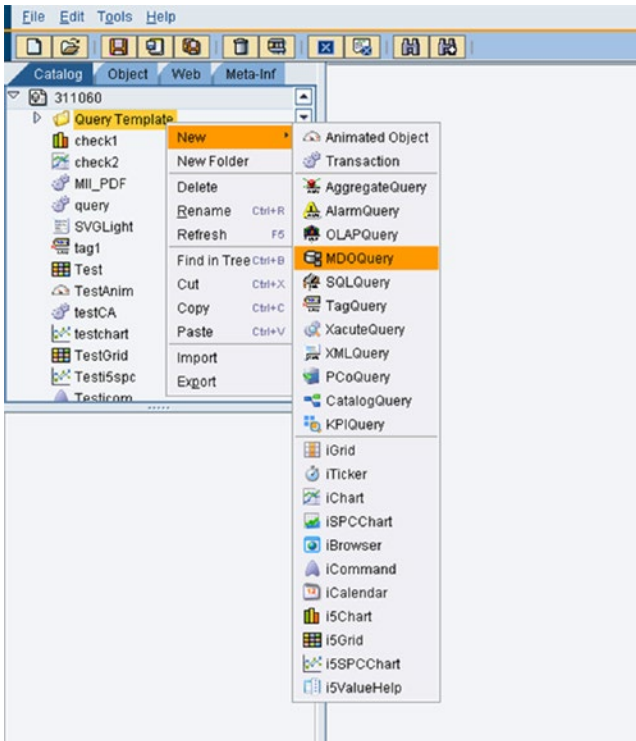

Figure 6-14. Creating an MDO Query template
1. In Catalog tab, select any project, right-click, and then select New ► MDOQuery, as shown in Figure 6-14.